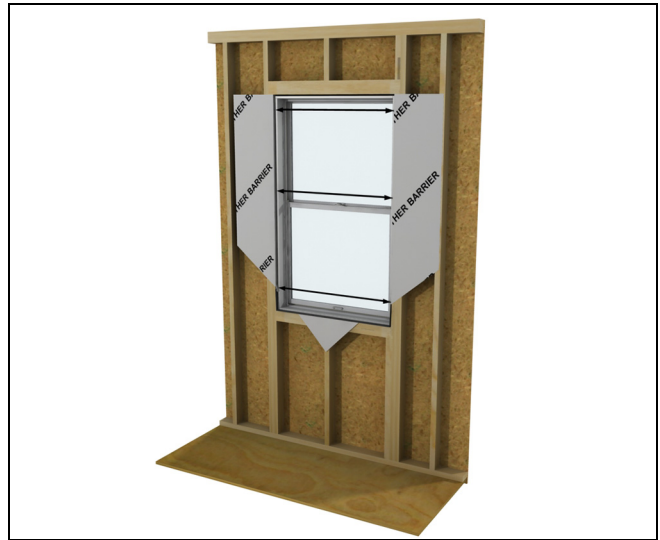

Figure 22
7. Measure at head jamb, center of unit, and sill to make sure all dimensions are equal. If they are not, you will have to adjust the shims accordingly. See Figure 22.